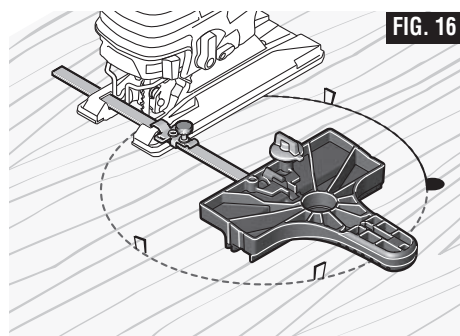

FIG. 16
- Place small wedges in the cut as shown in Fig. 16, to keep the inner circle from spreading when near the end of the cut.